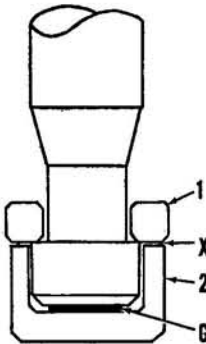

Fig. 24A—Feeler stock method of checking end clearance between rotor cap and end of valve stem. Preferred method utilizes a special micrometer.
With disc (G) installed as shown in Fig. 24A, place the spring retainer collets (keepers) in groove of valve stem and measure the gap (x) between collets and rotor cap with feeler gage while pressing down against the collets. Subtracting the measured gap from shim thickness (0.010) will give rotor to valve stem gap. If gap is less than 0.001, grind end of valve stem squarely to obtain desired 0.001-0.003 clearance. If gap is more than 0.003, lap open end of cap to reduce the clearance.